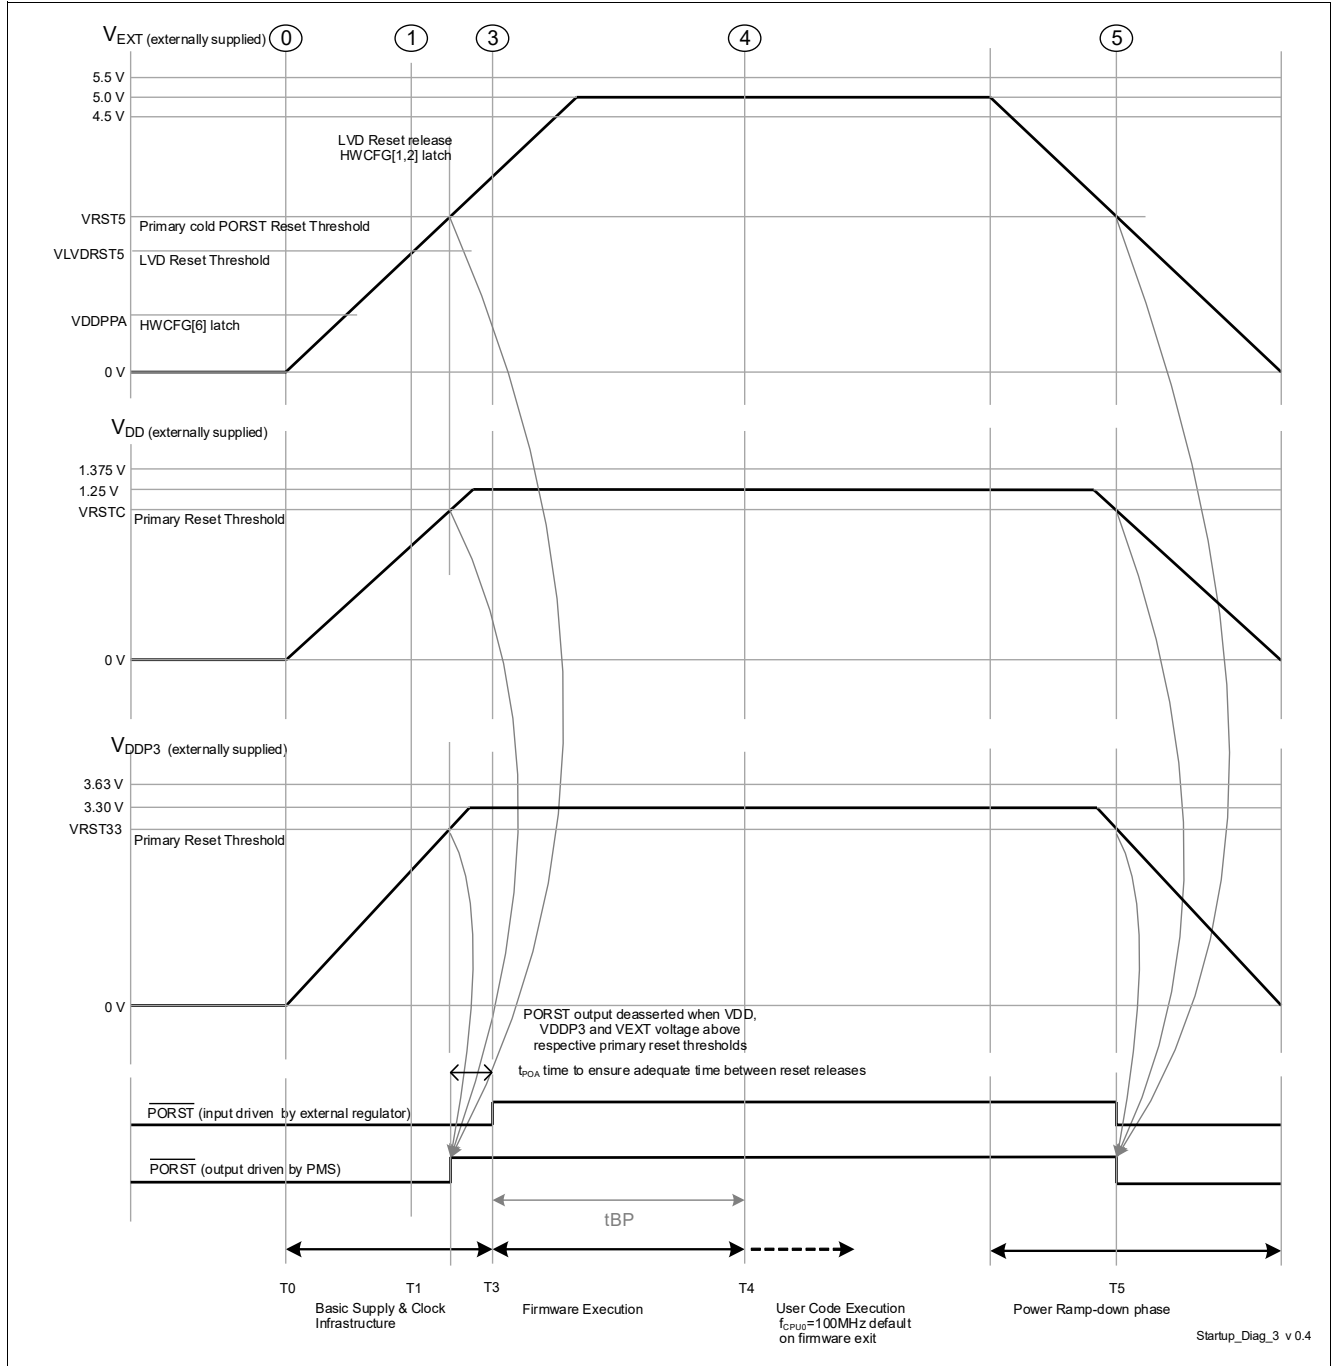

Figure 3-6 External Supply mode (h) - V_{EXT} , V_{DDP3} & V_{DD} externally supplied
- The power sequence as shown in **Figure 3-6** is enumerated below